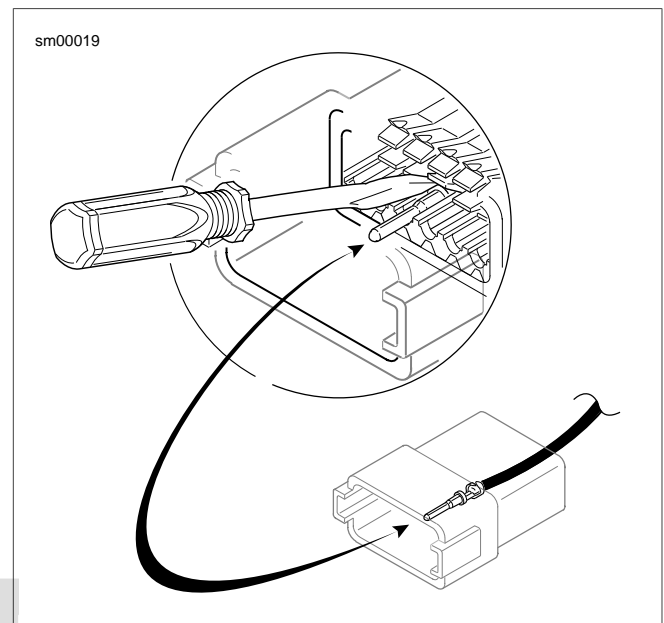

Figure A-14. Deutsch Connector: Depress Terminal Latch and Back Out Pin
- See Figure A-14. Use a pick or small screwdriver to depress terminal latches inside socket housing and back out sockets through holes in rear wire seal.